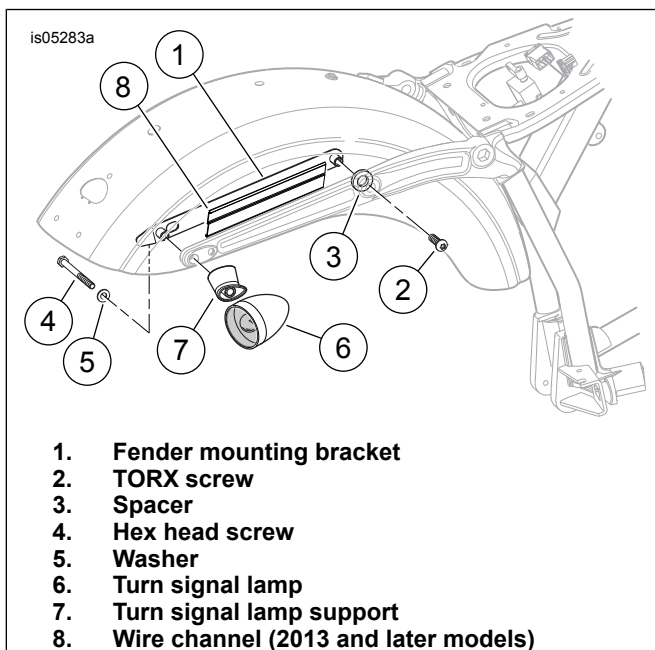

Figure 2. Remove Turn Signal Lamp from Fender
9. See Figure 2. Remove the screw (2) at the front of the fender mounting bracket (1).